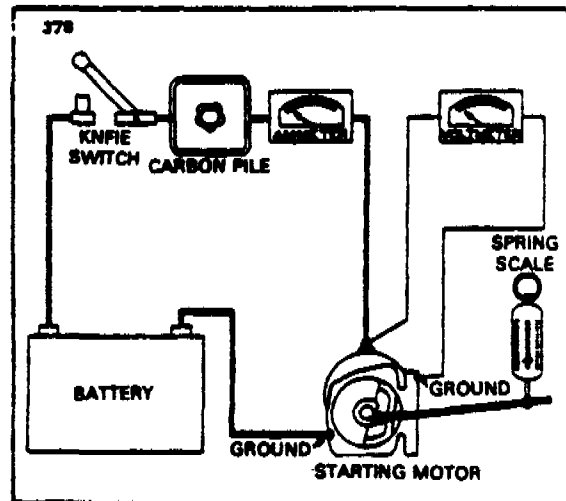

FIGURE 9-29f. STALL-TORQUE HOOKUP
b. If no difficulty is indicated in the above test, a stall torque test may be made to see if the starting motor is producing its rated cranking power. Make test connections as shown in Figure 9-29f.